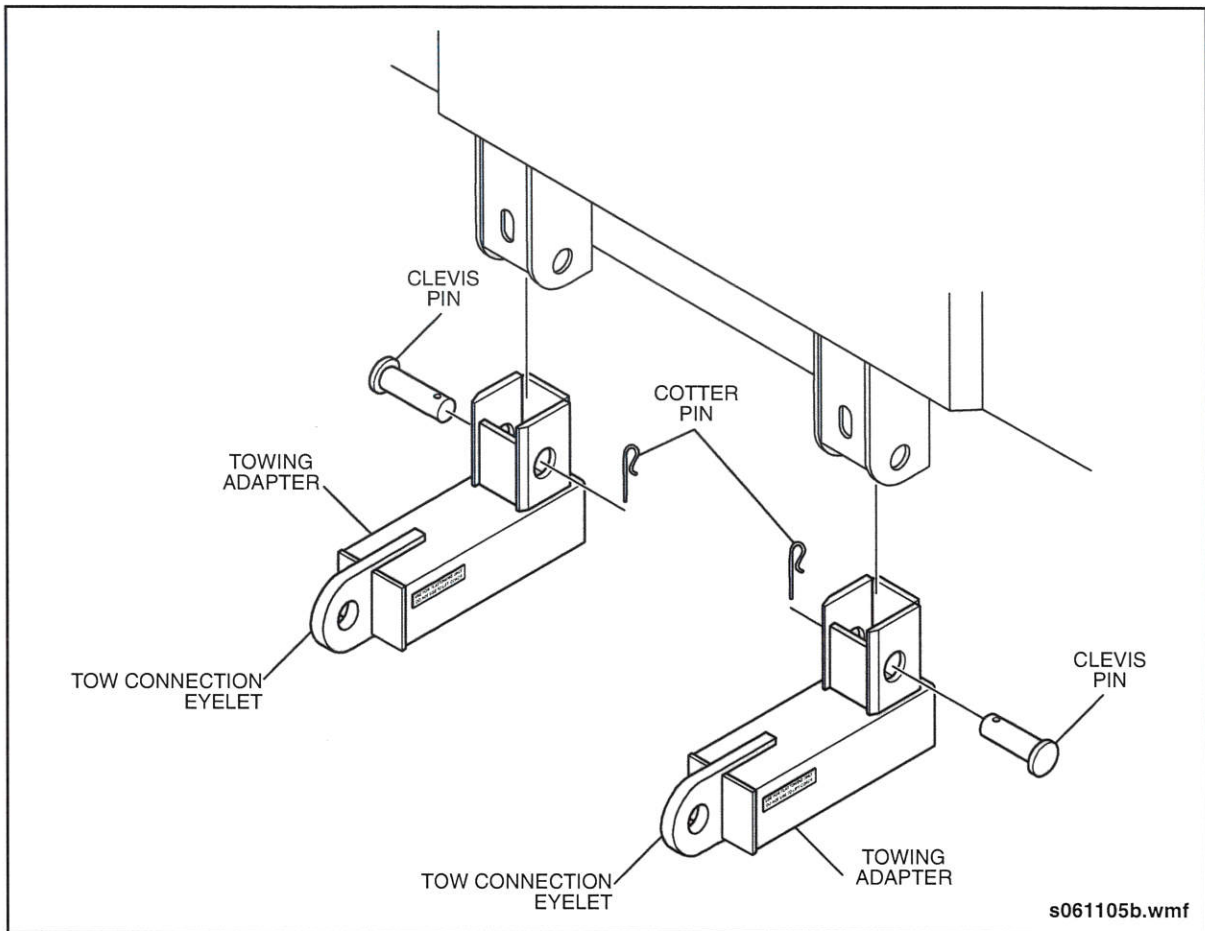

Fig. GI-22: Towing Adapter
1. Install each tow adapter into a receiver and locate with a clevis pin. See "Fig. GI-22: Towing Adapter" on page 43.